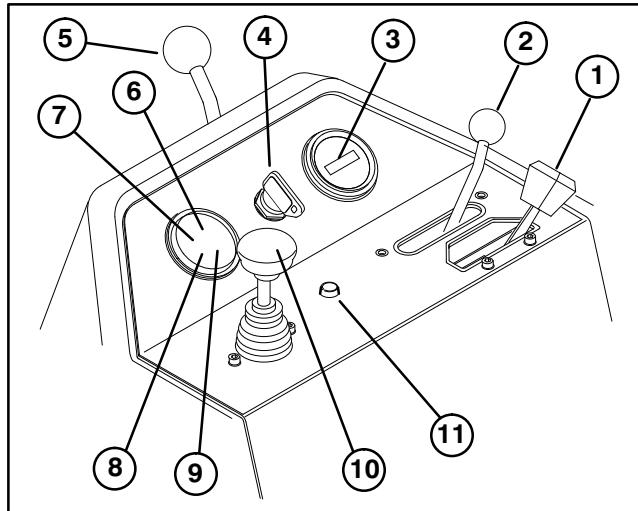

Figure 20
Throttle Control (Fig. 20) – The Throttle Control gives the operator the ability to control the speed of the engine. Moving the Throttle Control toward the “FAST” position increases engine RPM; moving Throttle Control toward “SLOW” will decrease engine RPM.
Functional Control Lever (Fig.20) – Provides two (2) traction selections, plus a “NEUTRAL” position. It is permissible to shift from mow to transport or transport to mow (not to neutral) while the Greensmaster 3200-D is in motion. No damage will result.
Hour Meter (Fig.20) – Indicates the total hours of machine operation. The hour meter starts to function whenever the key switch is rotated to “ON”.
Ignition Switch (Fig. 20) – Insert key into switch, turn clockwise as far as possible to “START” position to start engine. Release key as soon as engine starts; key will move to “ON” position. Turn key counter-clockwise to “OFF” position to stop engine.
Steering Arm Locking Lever (Fig.20) – Rotate lever rearward to loosen adjustment, raise or lower steering arm for operator comfort, then, rotate lever forward to tighten adjustment.
Water Temperature Light (Fig. 20) — Light glows and engine automatically shuts-down when engine coolant temperature gets too high.
High Temperature Override Button (Fig. 20) —If engine kills due to an over heat condition, press over ride button in and hold until machine can be moved to a safe location and allowed to cool down.
Glow Plug Indicator Light (Fig. 20) — When lit, indicates glow plugs are on.
Battery Warning Light (Fig. 20) — Light glows if battery charge is low.
Oil Pressure Light (Fig. 20) — Light glows if engine oil pressure drops below a safe level.
Raise / Lower – Mow Control (Fig 20) — Moving control forward, during operation, lowers the cutting units and starts the reels. Pull back on control to stop reels and raise cutting units. During operation reels can be stopped by pulling back on control momentarily and releasing. Restart reels by moving control forward.